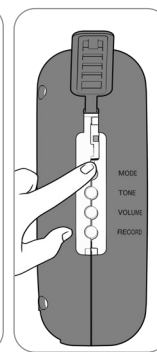

Fig. 5
3. Press MODE button on left side of fall monitor to scroll through the mode selections (Fig. 5). The last mode heard is the mode utilized when the alarm is activated.